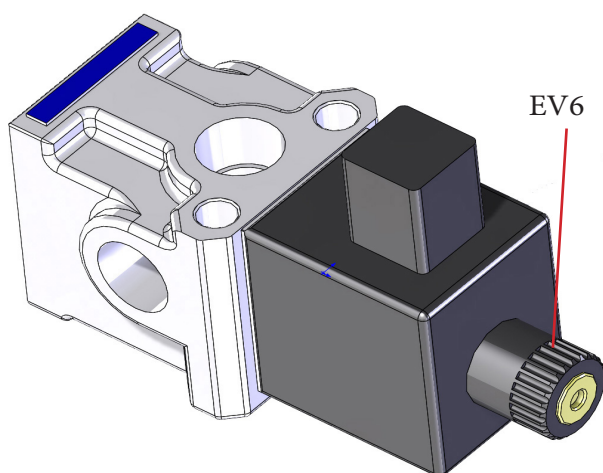

Fig. 4.7
3. Insert EV06 by screwing the pin completely (fig. 4.7).